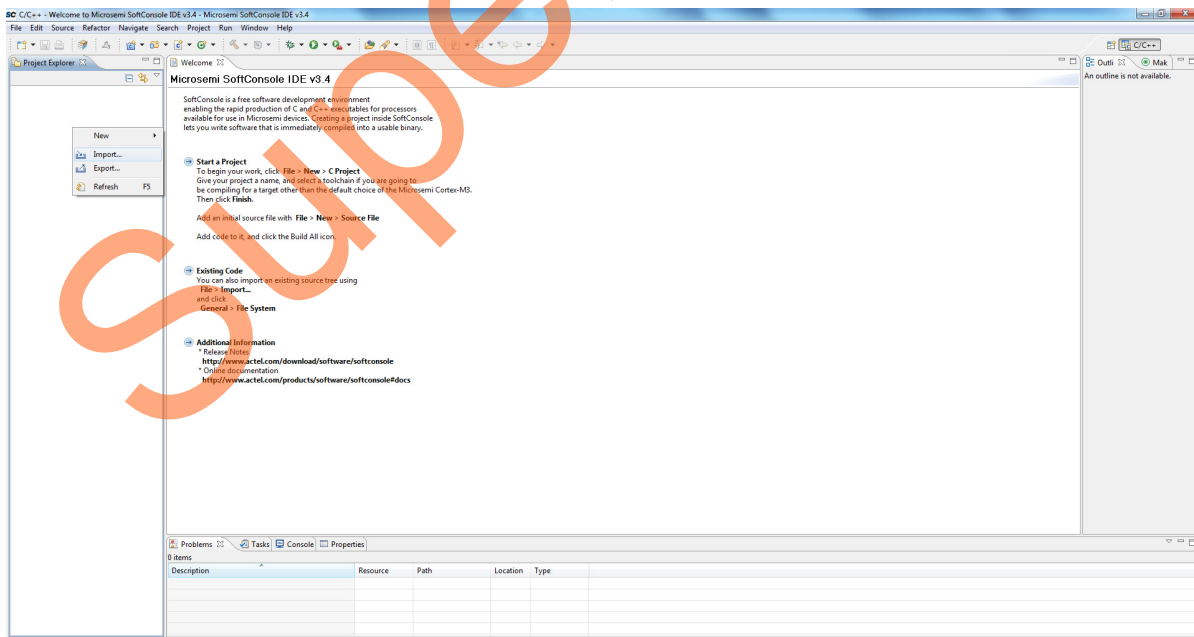

Figure 22 • Importing Projects
2. Right-click on the **Project Explorer** window and choose **Import** option as shown in Figure 22.